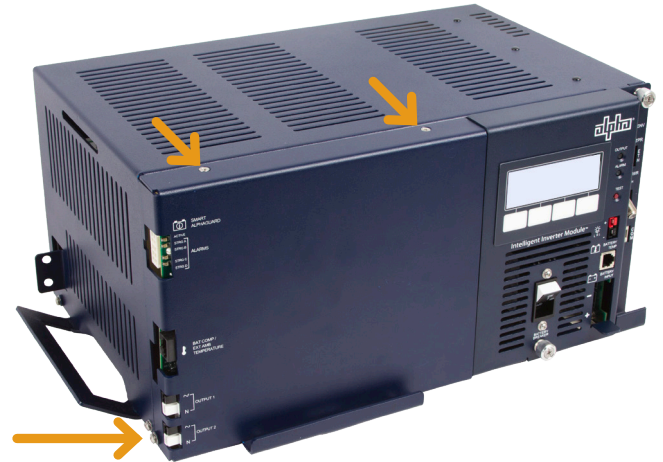

Fig. 2-15, Front Panel Fastener Locations
1. Remove the three fasteners securing the front panel (see Fig. 2-15).